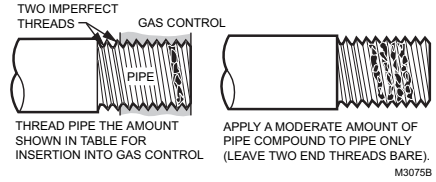

Fig. 1. Use moderate amount of pipe compound.
2. Apply a moderate amount of good quality pipe compound to the bushing, leaving two end threads bare. See Fig. 1. On an LP installation, use compound that is resistant to LP gas. Do not use Teflon tape.
4. Apply a moderate amount of good quality pipe compound (do not use Teflon tape) to pipe only, leaving two end threads bare. See Fig. 1. On LP installations, use compound resistant to LP gas.